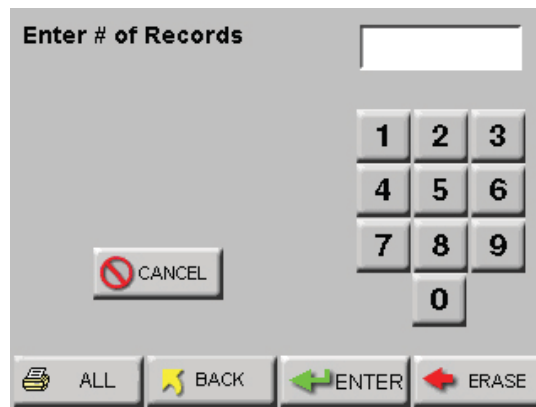

Figure 6-76 Print Range Screen
- Press the **RANGE** button. The Print Range screen displays as shown in Figure 6-76.